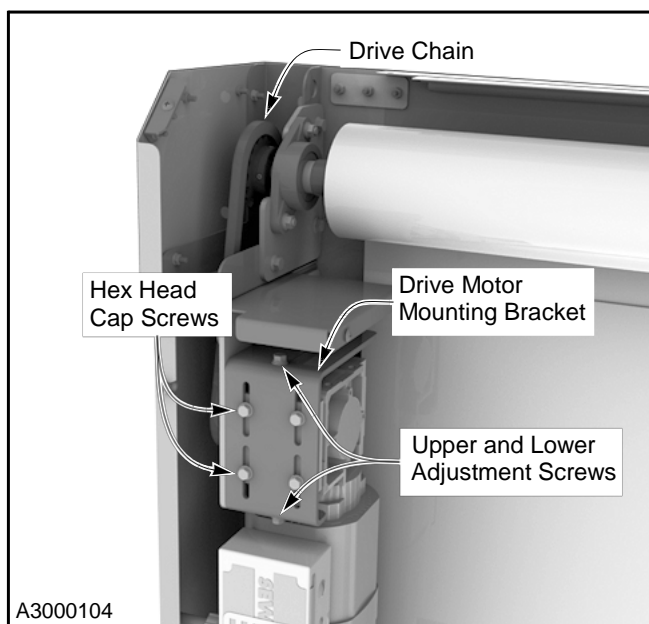

Figure 21
2. To adjust the tension, first loosen the four hex head cap screws located on the front of the drive motor mounting bracket (the cap screws secure the drive motor to the mounting bracket). (See Figure 21.)